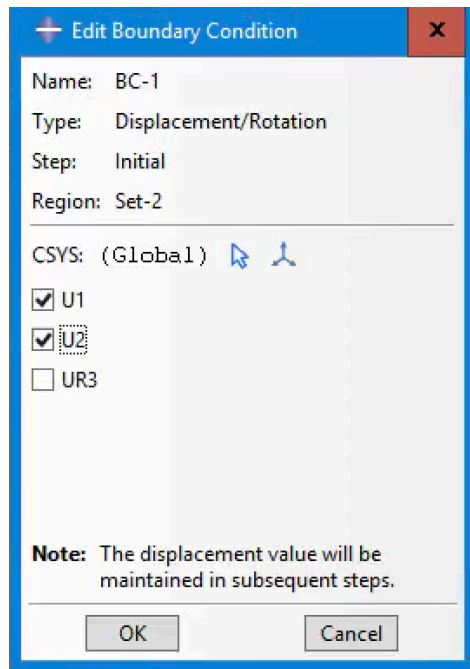

Figure 24 Edit Boundary Condition dialog box
- Click on the **Done** button to appear the **Edit Boundary Condition** dialog box in which the corresponding degree of freedom should be checked. In a 2D setup, U1 and U2 are translations in direction X and Y, respectively, and UR3 represents the rotation. Toggle on U1 and U2 since the support at this point is a pin and all translational degree of freedom need to be constrained (Figure 24).